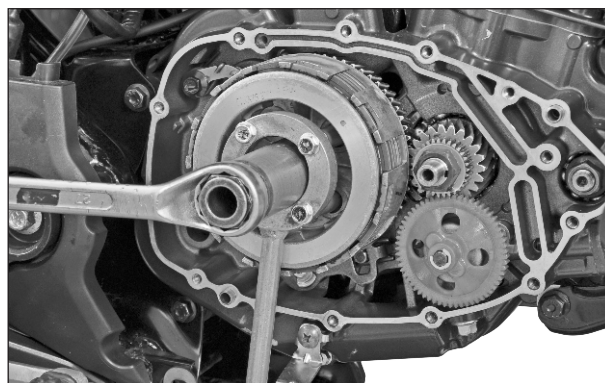

Fig. 3.11
- Using special tool hold the disc clutch pressure and remove nut clutch shaft (slotted nut). (Fig. 3.11)